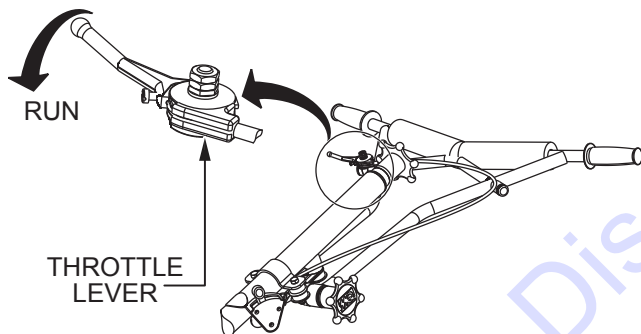

Figure 8. Throttle Lever (RUN)
3. Place the throttle lever (Figure 8) in the **RUN** position.